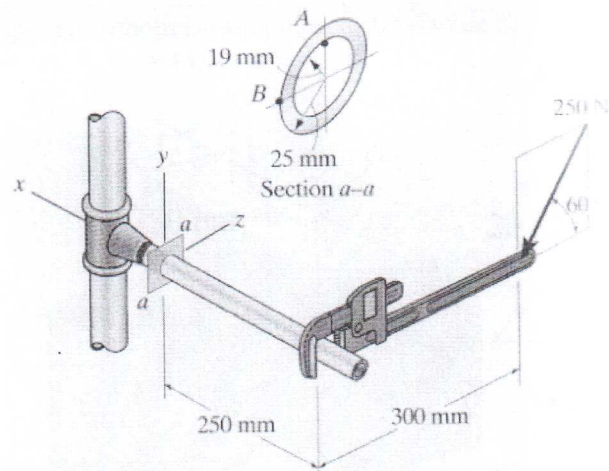

Figure 8.
- (8) Determine the state of stress at points *A* and *B* on the cross section of the pipe at section *a-a* as shown in Figure 8.